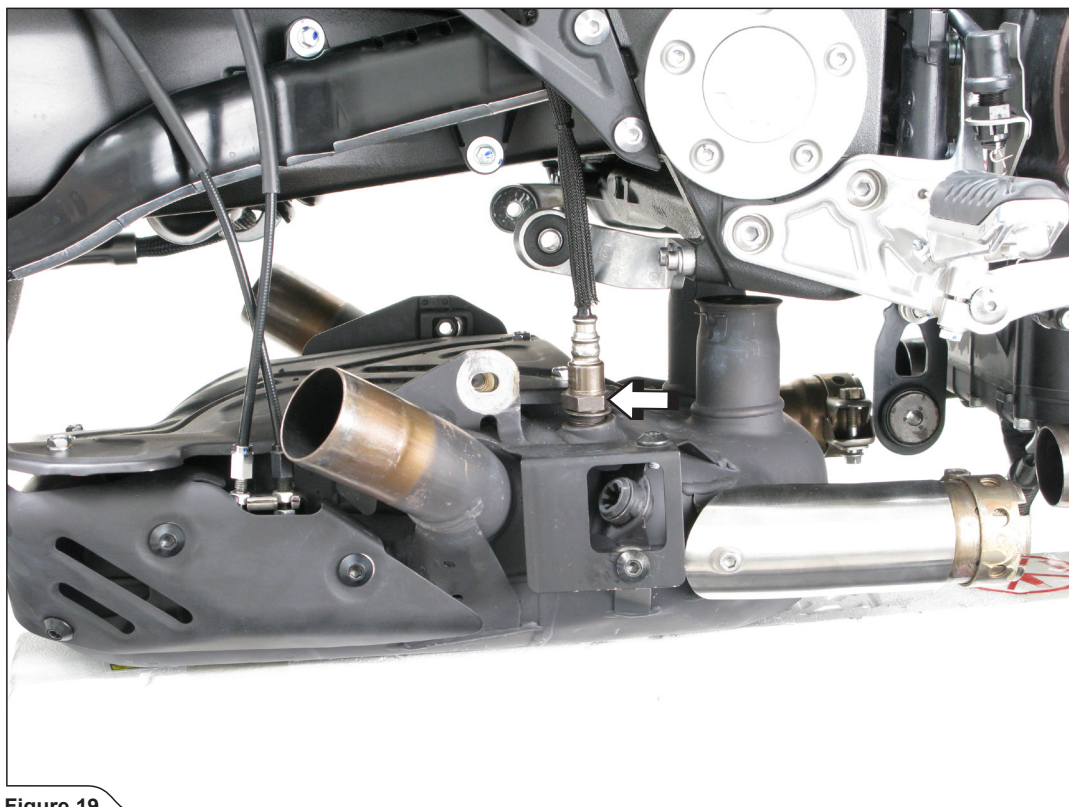

Figure 19
17. For OPEN SLIP-ON only: remove the stock catalytic converter box and unscrew the lambda sensor (Figure 19).